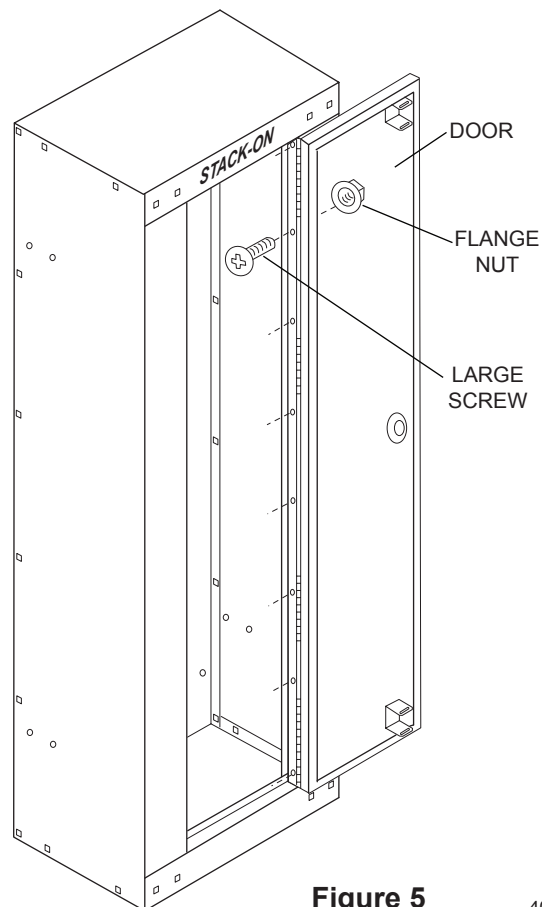

Figure 5
Align the door hinge holes with the cabinet holes. Assemble with (8) Large Screws and Flange Nuts. (See Figure 5)